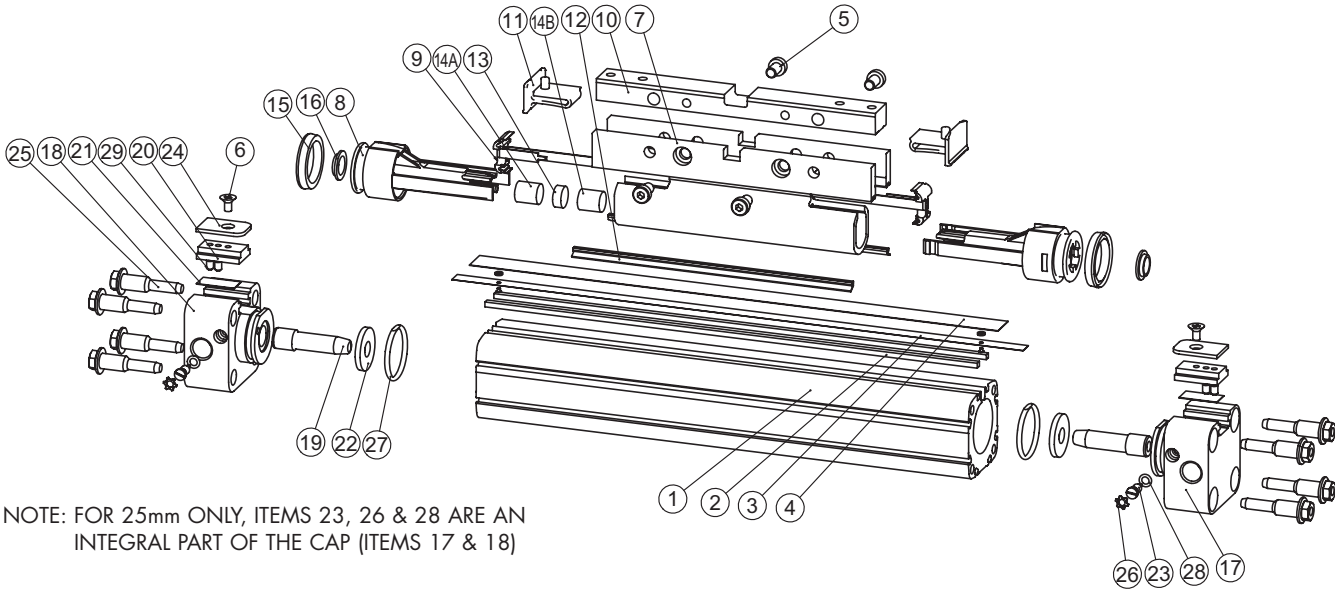

FIGURE 3
Those parts are the inner band (item 3), the barrel (item 1) and its magnet (item 2). See Figure 3.